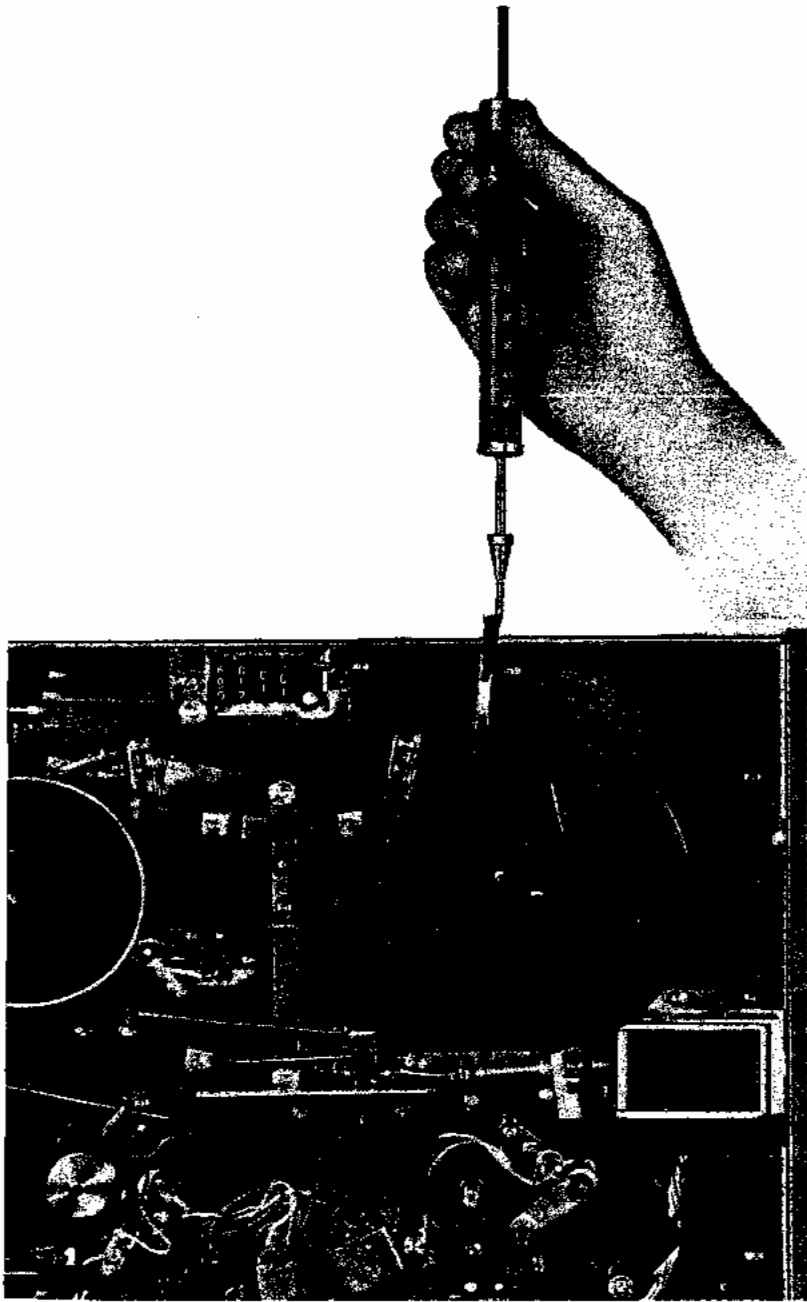

Fig. 22
For Brake Tension Measurement, use a 60 mm tape wound on a 5" reel and measure with a Tension Gauge. Standard tension is about 350 grams. Adjust Brake Tension by changing position of suspended springs (S 1 and S 2 in Fig. 22), loosening screws (A) and (B) and changing position of spring suspension metal (C), or loosening screws (D) (E) and changing position of F.
Caution: Following Brake Adjustment, confirm that the Brake Band does not touch the cloth tape on brake drum (See Fig. 22).